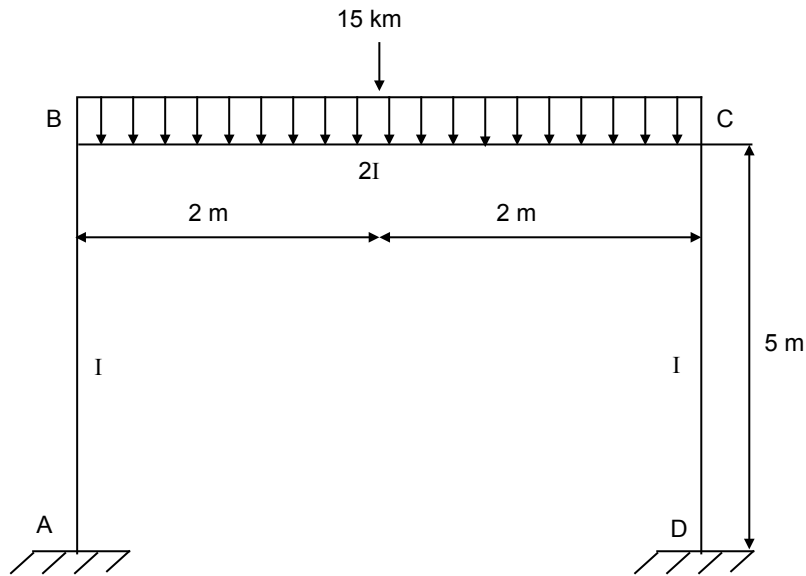

Figure 8
Q.8 Analyse the plane frame shown in Figure 8 using symmetry concept.